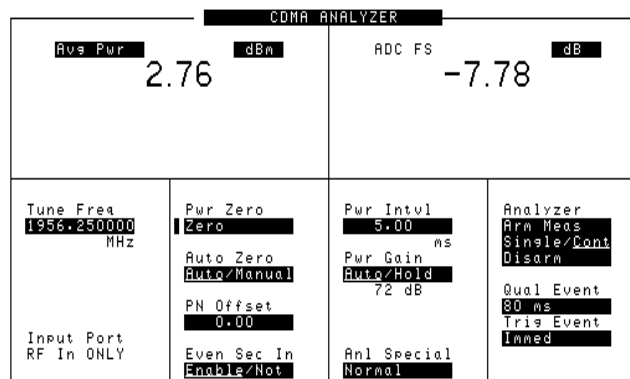

Figure 10. CDMA ANALYZER Screen on the Agilent E6380A Test Set
2. Press the **CDMA Analyzer** key on the front panel of the E6380A. The CDMA ANALYZER screen appears (see Figure 10).